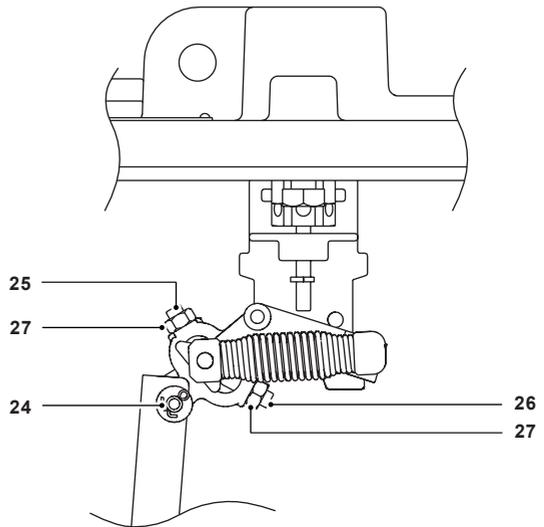

Fig. 12
Note: The socket set screws (Fig. 12 items 25, 26) are factory set and must not be disturbed during the following maintenance procedures.
- a. Remove shaft (item 24, Fig. 12) from mechanism end of connector rod and rotate float and connector rod to opposite side of pillar.